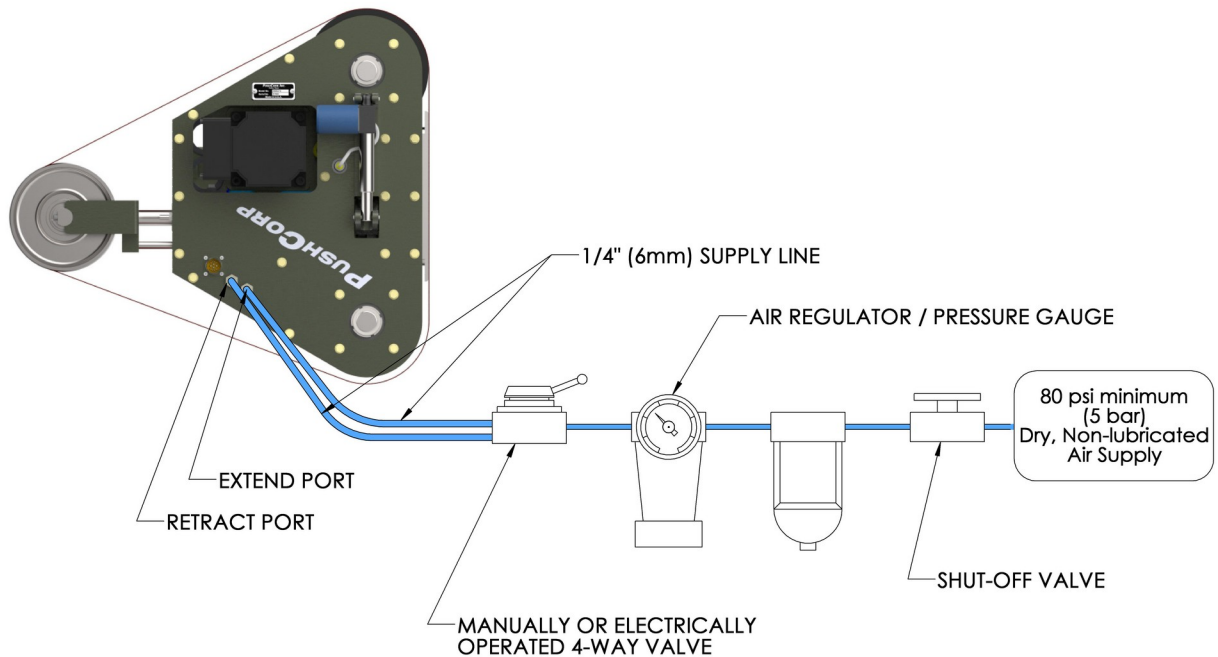

Figure 5. Pneumatic configuration
The pneumatic supply system should be configured as shown in Figure 5.
The RBS372 has two (2) pneumatic inputs; these are the two (2) female R 1/8 (Metric) ports shown in Figure 5. These ports supply the air pressure to extend and retract the Tracking Wheel. Before connecting the supply to the air fittings, open the supply valve to blow out any contaminants which may be in the line. Charge the supply line with compressed air and verify that there are no air leaks and that there is a minimum of 80 psi (5 Bar). If a minimum air pressure of 80 PSI cannot be achieved, then an auxiliary air compressor or booster pump must be installed.